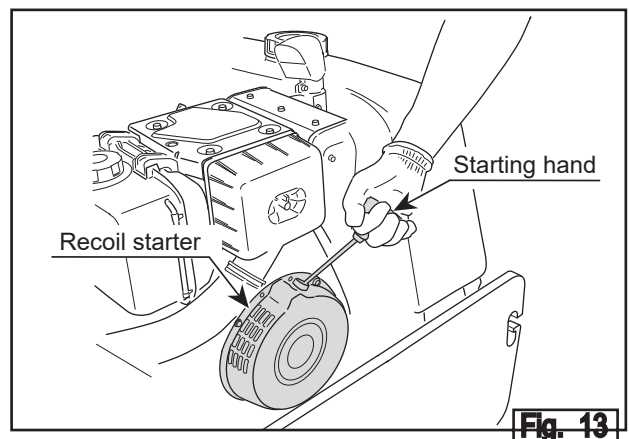

Fig. 13
- c. Grab the starting handle for the recoil starter and pull it slowly until you feel some resistance.(Fig.13)